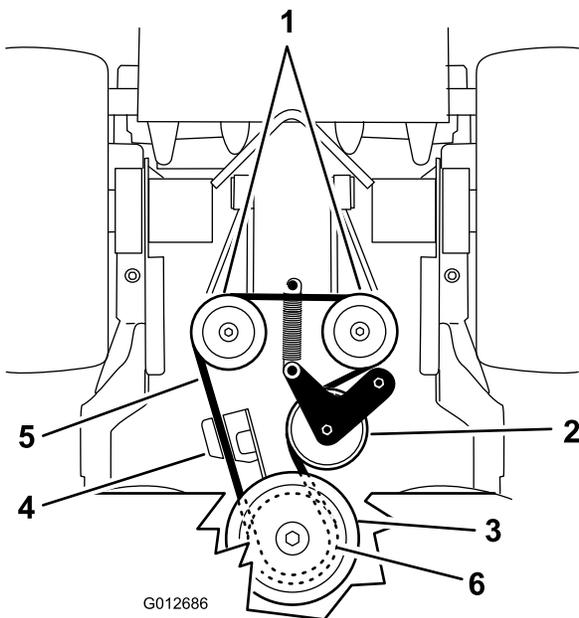

Figure 68
5. Unhook the idler spring from the frame (Figure 68).
7. Install the idler spring to the frame (Figure 68).